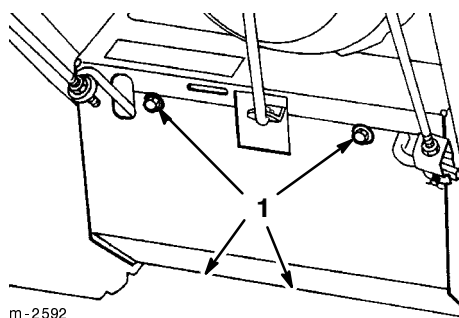

Figure 23
7. Remove the four screws that secure the bottom cover to the frame and remove the cover (Fig. 23).
- Remove the four screws that secure the bottom cover to the frame and remove the cover (Fig. 23).